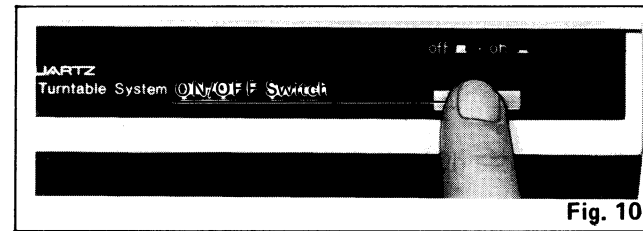

Fig. 10
2. Set the on/off switch to the "on" position (→). (See Fig. 10.)